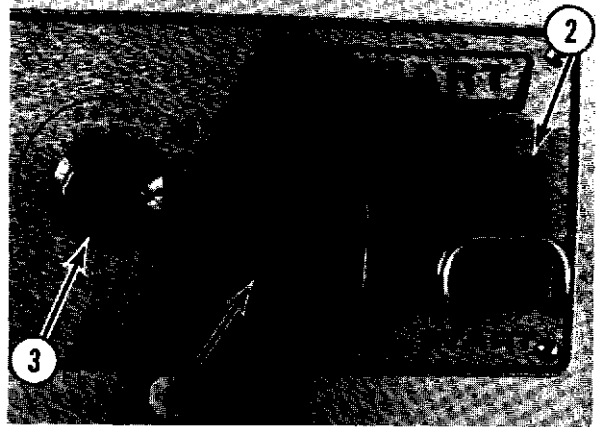

Fig. 14-1
A. Stop Switch (1PB) (1, Fig. 14-1).
B. Start Switch (2PB) (2, Fig. 14-1).
C. Timer (3, Fig. 14-1).